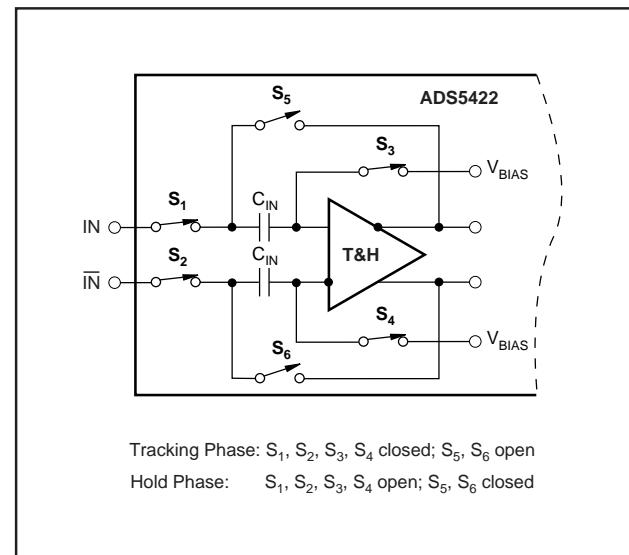
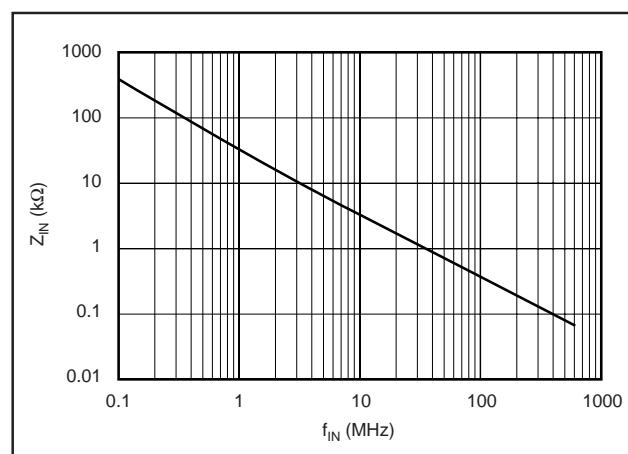

FIGURE 1. Simplified Circuit of Input Track-and-Hold Amplifier.
FIGURE 2. Differential Input Impedance vs Input Frequency.
The analog input of the ADS5422 consists of a differential track-and-hold circuit, as shown in Figure 1. The differential topology produces a high level of AC performance at high sampling rates. It also results in a very high usable input bandwidth—especially important for Intermediate Frequency (IF) or undersampling applications. Both inputs (IN,  $\bar{IN}$ ) require external biasing up to a common-mode voltage that is typically at the mid-supply level ( $+V_S/2$ ). This is because the on-resistance of the CMOS switches is lowest at this voltage, minimizing the effects of the signal-dependent,
The input of the ADS5422 is capacitive, and the driving source needs to provide the slew current to charge or discharge the input sampling capacitor while the track-and-hold amplifier is in track mode (see Figure 1). This effectively results in a dynamic input impedance that is a function of the sampling frequency. Figure 2 depicts the differential input impedance of the ADS5422 as a function of the input frequency.